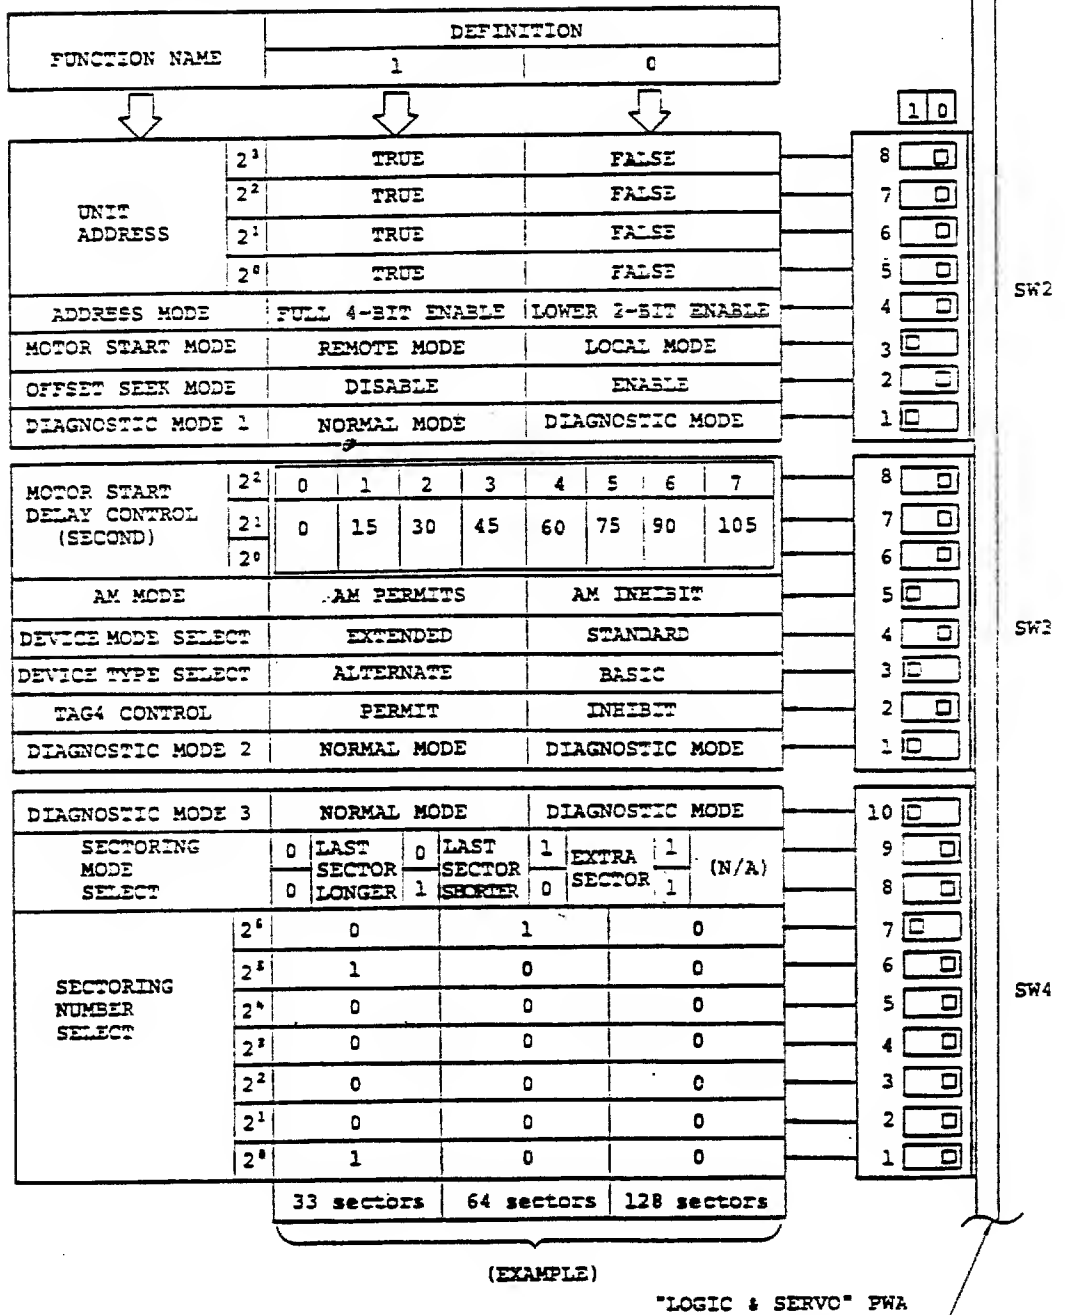

Figure 4-7 Parameters Selection DIP Switches
All these switches are equipped on the "LOGIC & SERVO" PWA, and the detail location of each DIP switch Assy is shown in Figure 4-7.
One of sixteen or four Address code (0, 1, 2, and 3, or through to 15) is selected by the "UNIT NO." switches consisting of four or two bits. Refer to the Figure 4-7 for preset of a desired unit address to the drive.
Figure 4-7 shows the details of the "SW3" 8-bit DIP switch Assy for the disk drive control mode setting.
The switch bit 8, bit 7 and bit 6 are assigned as Start Delay Setting switches. The spindle motor driving is delayed within the time specified by the Start Delay switches, even if the start-up conditions are satisfied. (DC power on and motor start mode satisfied) The setting of switches for selection of one of eight Delay Time (0, 15, 30, 45, 60, 75, 90 and 105 seconds) is shown in Figure 4-7.
(2) The Sector Select Switches are shown in Figure 4-7. The Sector Select Switches consist of 9 independent switches (9-1 bit of "SW4"). The switch bit 9-8 of the DIP sw are assigned as "Format Setting Switches", and other switches (7-1 bit of the DIP sw) are assigned as "Sector Select Switches".